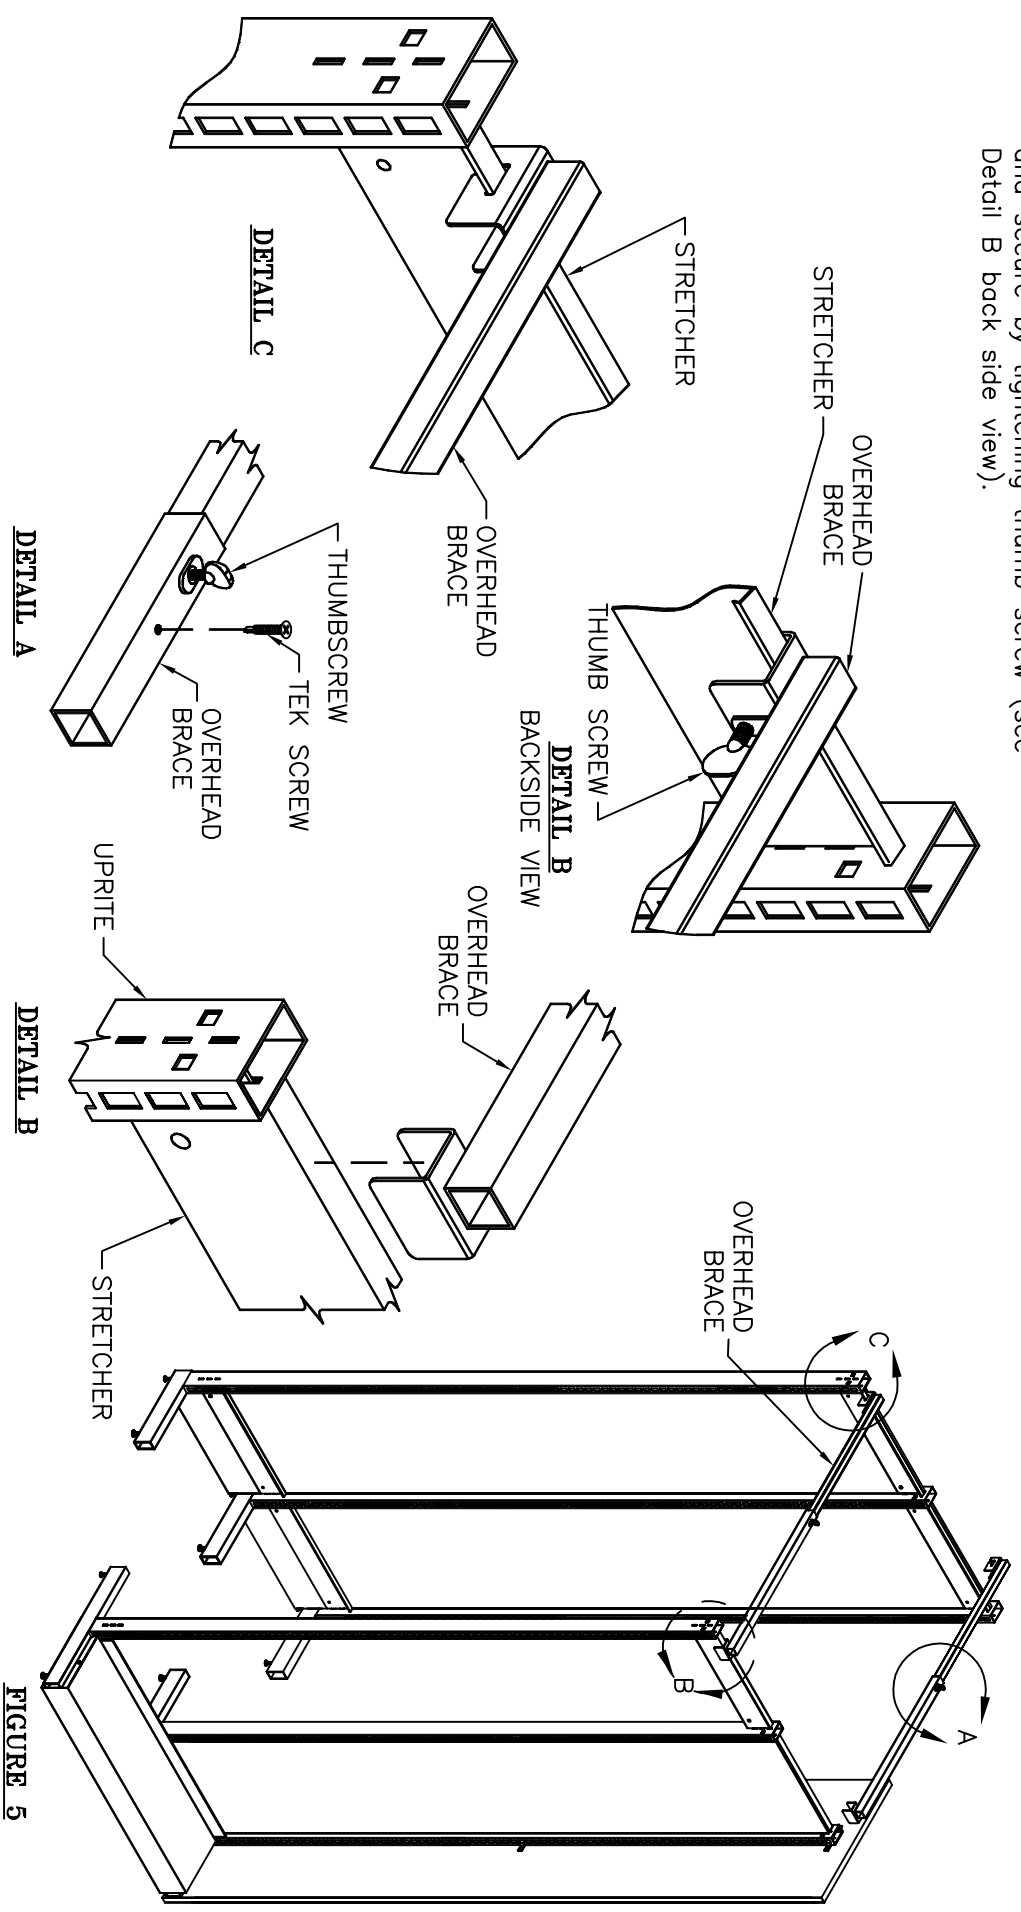

FIGURE 5
STEP 11: For section that require Legs to be removed, use L-Uprites w/Removable Legs (see Figure 5).